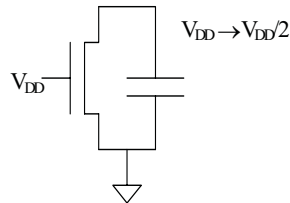

Figure 0.13 The equivalent resistance is to be computed for the H→L transition.
- Next, obtain the resistance equation 3.43 using the Figure 0.13. Assuming the V_{GS} is kept at V_{DD} , Calculate the R_{eq} as output (V_{DS}) transitions from V_{DD} to $V_{DD}/2$. (Figure 0.13).